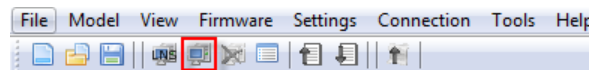

Figure 69: LINX Configurator software, Connect to device
1. Select the IP connection method by clicking on the **Connect to device** button in the tool bar as shown in Figure 69.